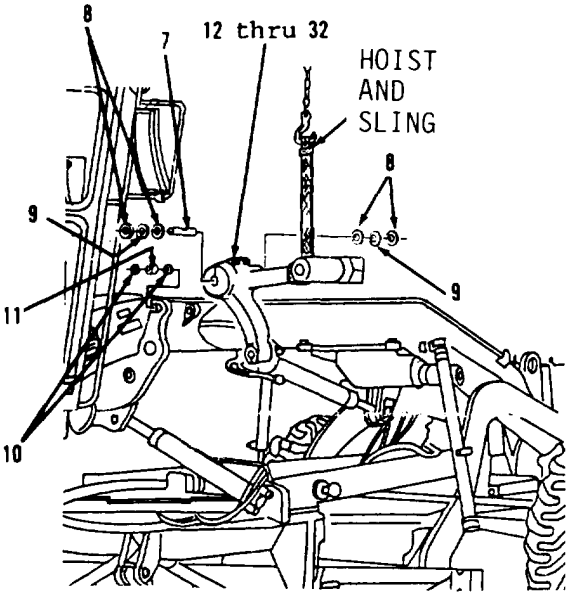

Figure 12-12.
2. Remove two bolts (1), washers (2) and lock (3).
3. Remove bolt (4), washer (5) and plate (6) on right side blade lift arm (25) only.
4. Remove pin (7), four washers (8), two washers (9) and items 12 thru 32 as an assembly (Figure 12-12).
6. Remove and discard four seals (10) and two bearings (11).
5. Using tooling given in step 2, install two new bearings (11) in center of vehicle frame. Install two bearings (11, Figure 12-12) to a depth of 0.359 to 0.391 inch.
6. Using a driver group, install four new seals (10). Lips of four seals (10) must be toward outside and even with outside surface.
7. Attach hoist and sling to items 32 thru 12 as an assembly and position on frame.
8. Install items 32 thru 12 as an assembly, two washers (9), four washers (8) and pin (7).